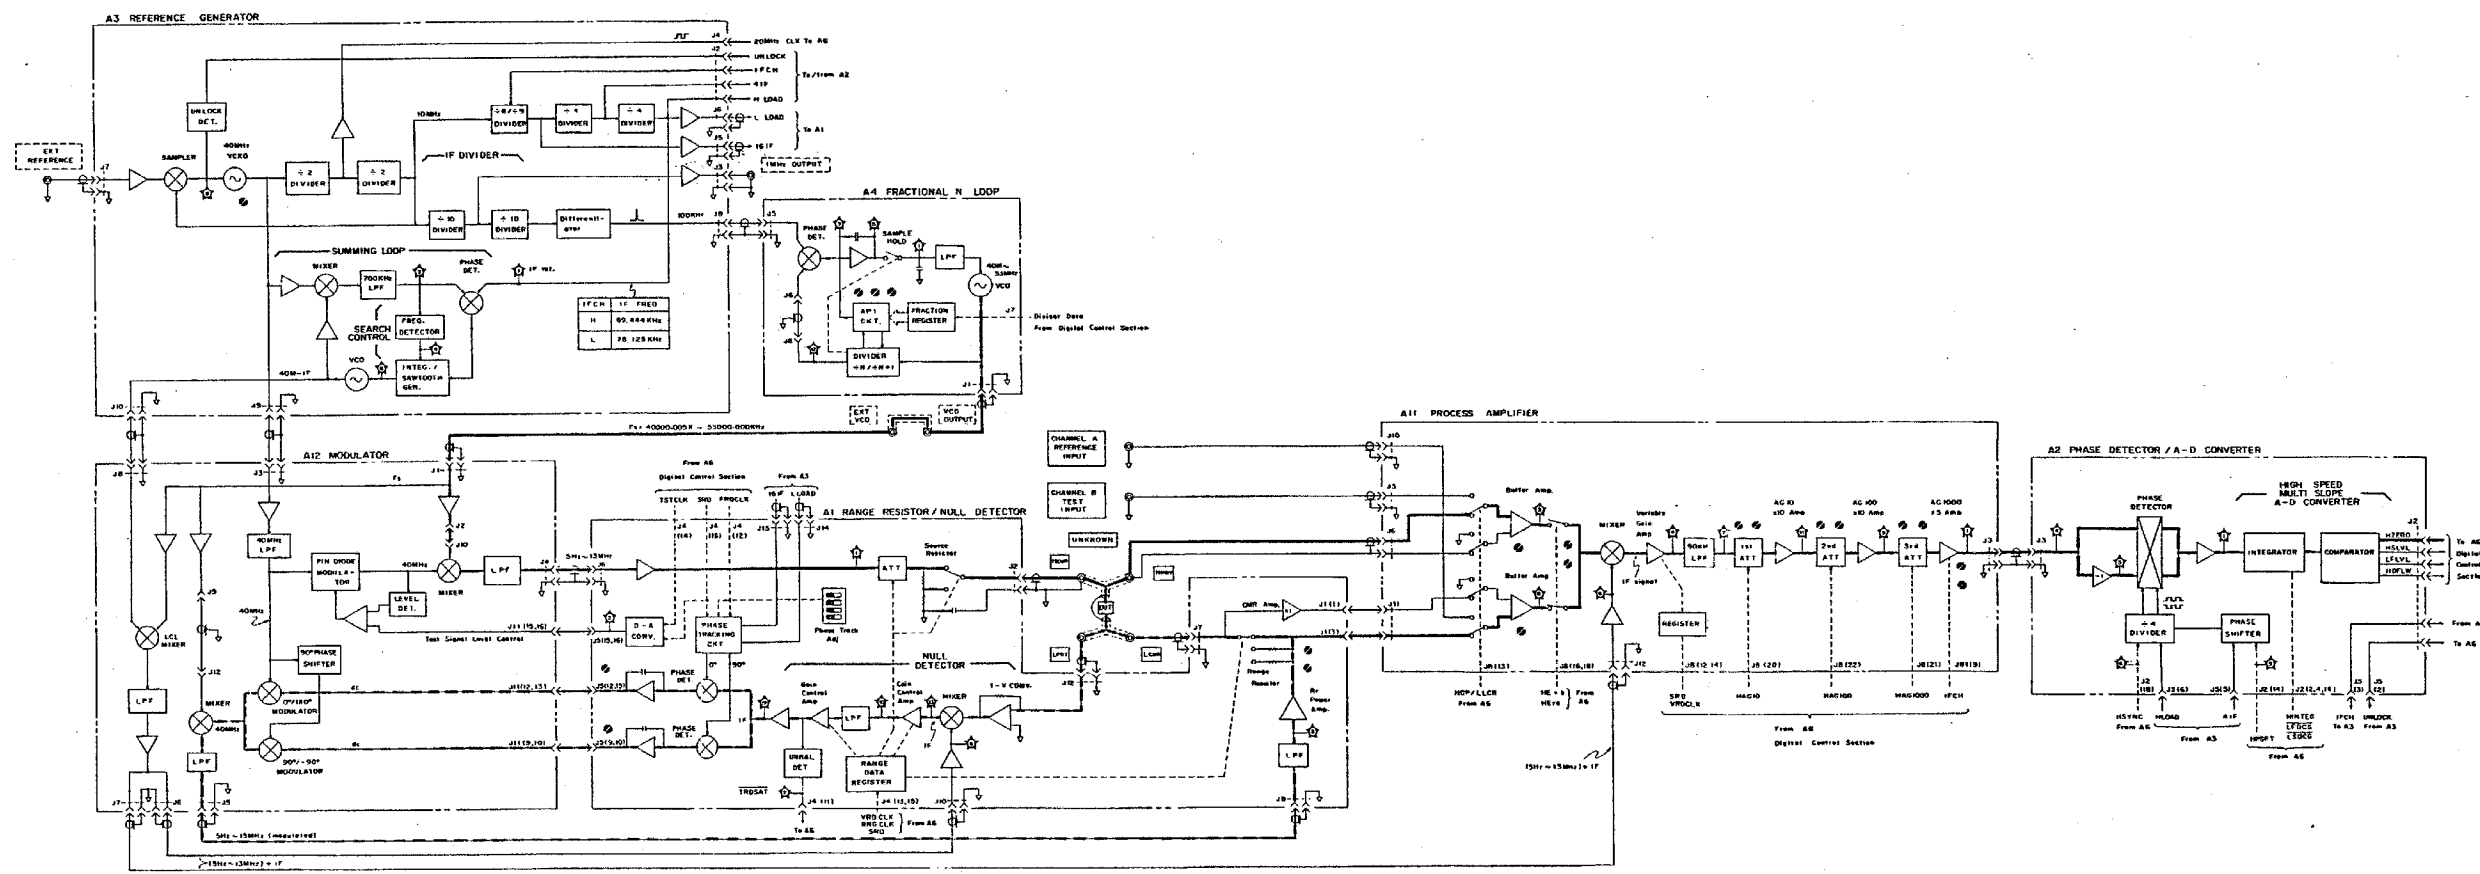

Figure 8-22. Analog Measurement Section Block Diagram.
8-36. The measurement circuit of the 4192A is conceptually divided into three subsections: (1) the signal source, composed of the A3 Reference Frequency Generator and the A4 Fractional N Loop; (2) the auto-balance bridge, composed of the A1 Range Resistor/Null Detector and the A12 Modulator; and (3) the vector ratio detector (VRD), composed of the A2 Phase Detector/A-D Converter and A11 Process Amplifier. The block diagram of the 4192A measurement circuit is shown in Figure 8-22. For simplicity, the block diagram is drawn for function and signal flow and does not, therefore, show complete details. The bold lines in the block diagram show the main test signal flow and the dashed lines show the balance control loop of the bridge circuit.
8-53. The switch circuit at the input stage of the process amplifier changes the measurement circuit for either impedance parameter measurements or amplitude-phase measurements. When making an amplitude-phase measurement, all of these switches are set to opposite positions from those shown in the block diagram (Figure 8-22). Then, the process amplifier accepts the inputs for CHANNEL A and CHANNEL B to be measured in place of the signals obtained from the bridge circuit. In B-A